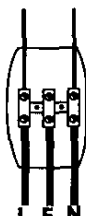

Fig. 2
4. **AR111 luminaires.** Connect the luminaire to the transformer using the terminal block supplied (see Fig.2). No earth connection is required. Ensure that the fitting does not come into contact with any earthed metal. Mains connection to the transformer should be made using a suitable electrical junction box in compliance with the I.E.E. Wiring Regulations.
5. **CDM-T luminaires.** Connect the luminaire to the HID ballast using the terminal block supplied (see Fig.2). No earth connection is required. Ensure that the fitting does not come into contact with any earthed metal. Mains connection to the transformer should be made using a suitable electrical junction box in compliance with the I.E.E. Wiring Regulations.